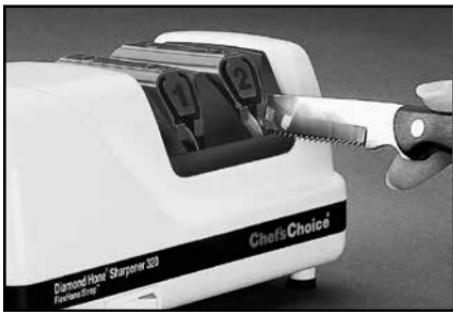

Figure 9. Sharpen serrated blades only in Stage 2.
Serrated blades of all types can be sharpened in the Chef'sChoice® Model 320. However, use only Stage 2 (Figure 9), which will sharpen the teeth of the serrations and develop microblades along the edge of these teeth. Generally five (5) to ten (10) pairs of alternating pulls in Stage 2 will be adequate. If the serrated knife is very dull more pulls will be needed. If the knife edge has been severely damaged through use, make just one fast pull (2-3 seconds for an 8" blade) in each of the right and left slots in Stage 1, then make a series of pulls in Stage 2, alternating right and left slots. Excessive use of Stage 1 will remove more metal along the edge than is necessary in order to sharpen the teeth.